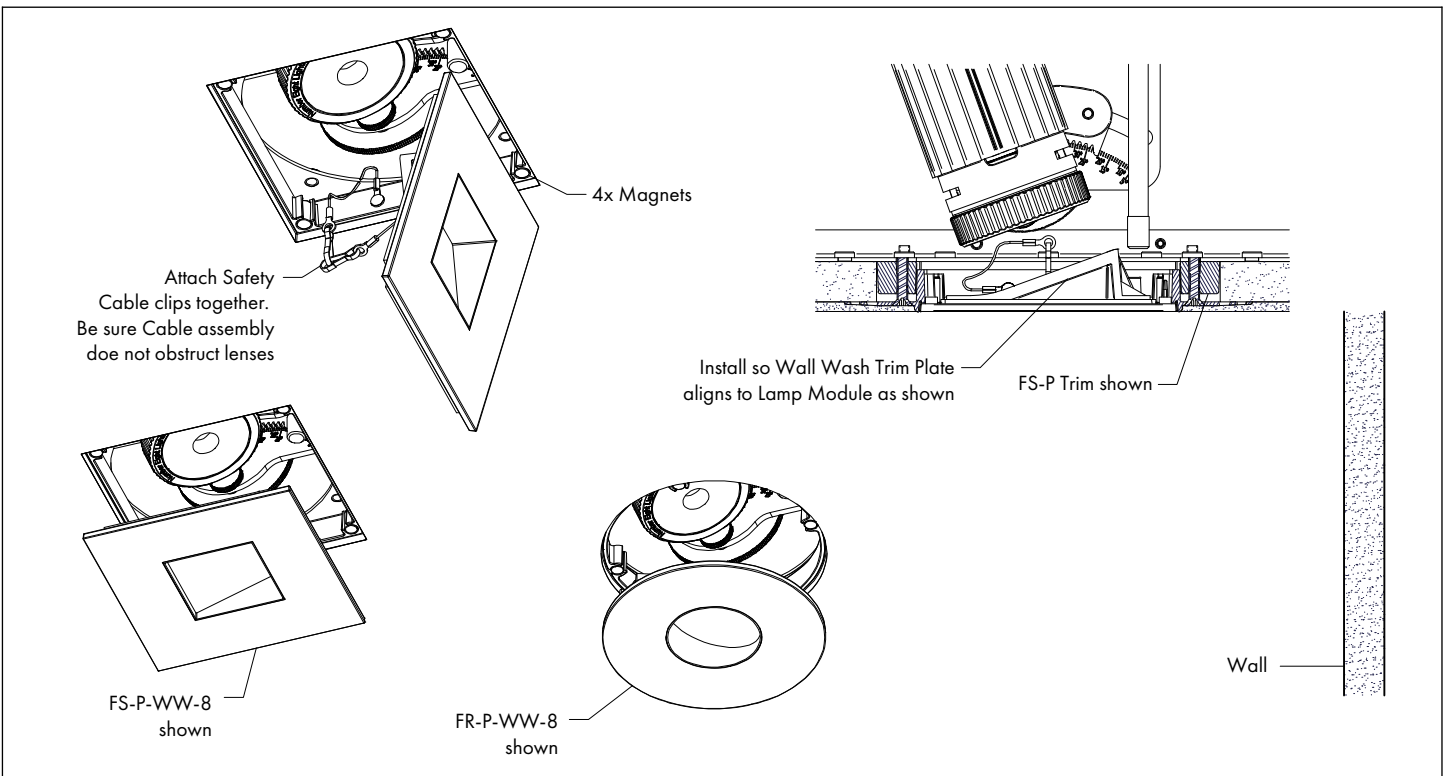

FIG 11.3 Install Wall Wash Trim Plate
STEP 3 Orient & install Wall Wash Trim Plate into Trim as shown - **FIG 11.3**.